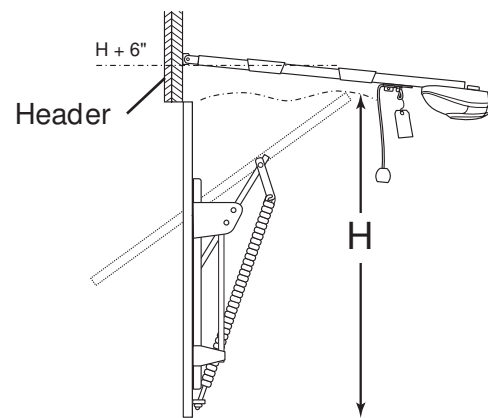

Figure 4 Find Highest Point of Travel
- B Find Header Bracket mounting height (Figure 4): (Do not attach Header Bracket).